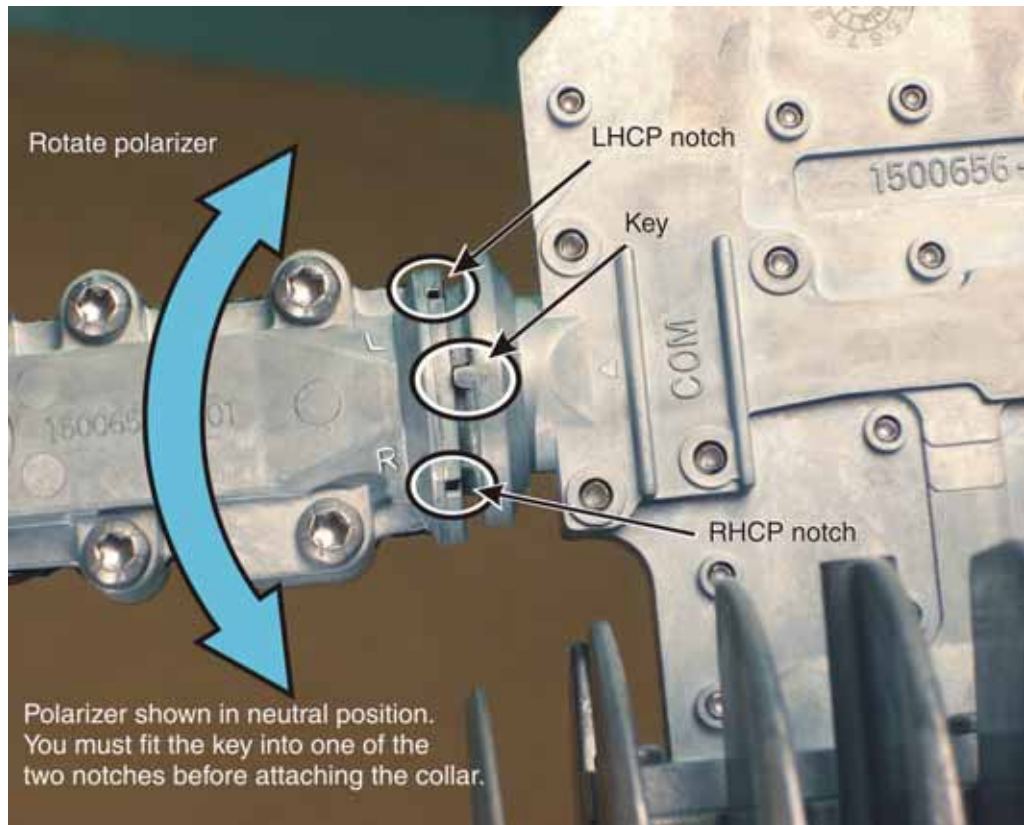

Figure 20: Adjusting circular polarization (collar removed)
2. Separate the polarizer from the TRIA and rotate it one quarter turn (clockwise for LHCP or counter-clockwise for RHCP), until the appropriate notch lines up with the key on the end of the TRIA. As shown in Figure 20, the LHCP notch is adjacent to the L on the polarizer and the RHCP notch is adjacent to the R on the polarizer).